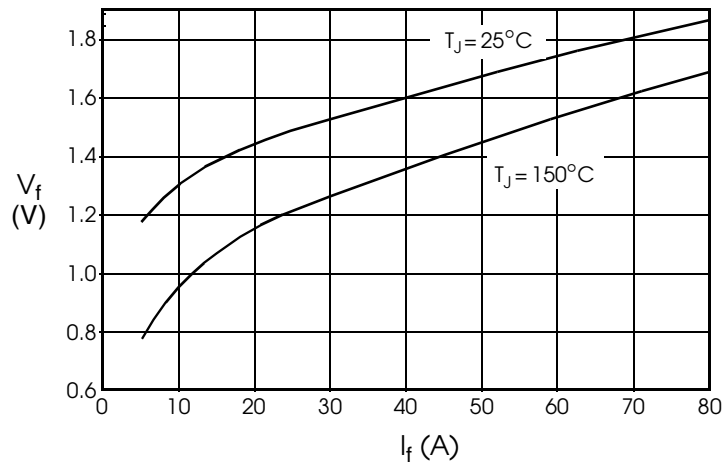

FIGURE 5 - DIODE VOLTAGE DROP VS. FORWARD CURRENT
- $V_f$  = Commutation diode forward voltage from Figure 5